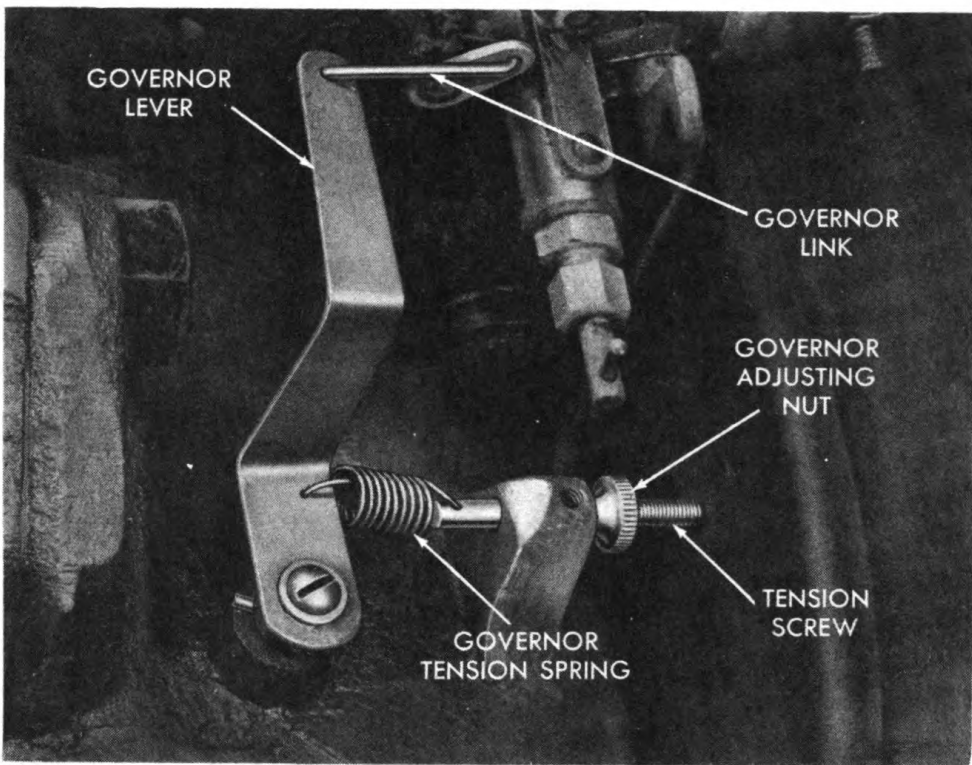

Figure 11—Governor Adjusting Nut and Tension Screw
c. **Governor.**—The governor is enclosed within the engine crankcase and is controlled by linkage attached to an adjusting nut and tension screw (figure 11) located adjacent to the carburetor and behind the needle valve. The adjusting nut controls the action of the governor, which in turn controls the speed of the engine. To increase engine speed, turn adjusting nut to the right (clockwise). The speed of the engine should be such that the pump will operate at 100 to 120 revolutions per minute.
c. **Setting Engine Governor.**—Count the strokes per minute of one pump plunger. If less than 100 strokes are recorded, governor should be advanced, permitting greater engine speed. To advance governor, turn governor adjusting nut (figure 11) to the right (clockwise). If more than 120 strokes per minute are recorded, governor should be retarded to reduce engine speed. To retard governor, turn governor adjusting nut to the left (counterclockwise).